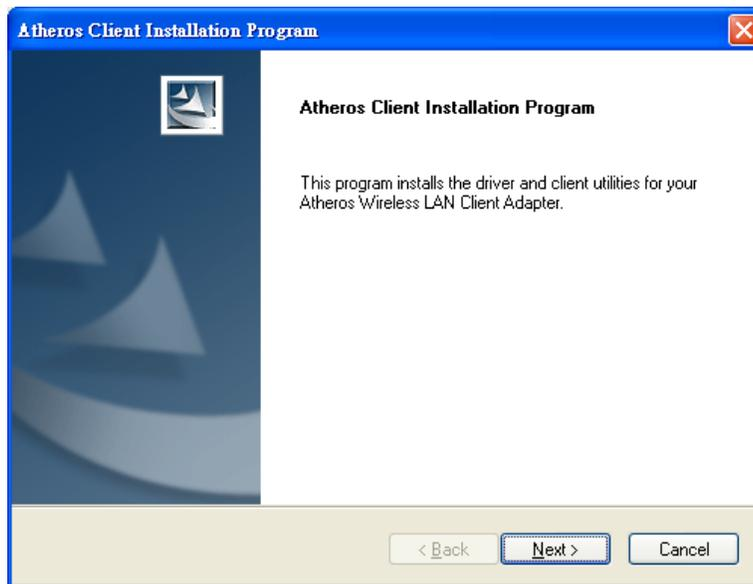

Figure 6-26: Atheros Client Installation Program Screen
Step 3: The Atheros Client Installation Program screen appears. See **Figure 6-26**.